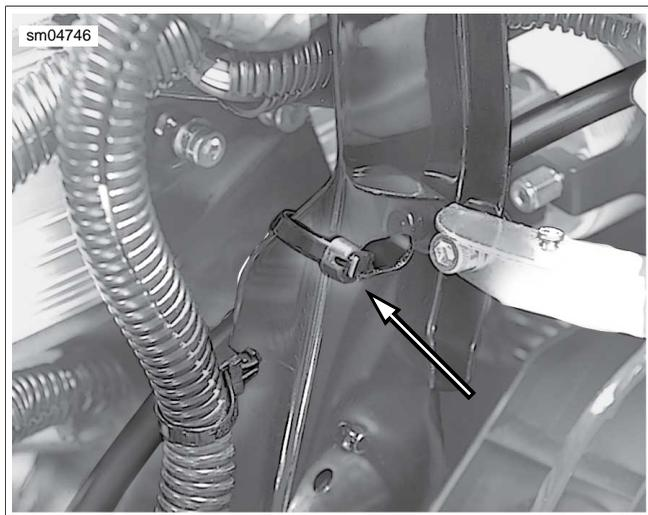

Figure 2-89. Secure Clutch Cable to Fairing Bracket
- b. **FLHX, FLHT/C/U:** Remove outer fairing. See 2.35 UPPER FAIRING AND WINDSHIELD: FLHX, FLHT/C/U. Cut cable strap to release clutch cable from left fairing bracket. See Figure 2-89.
- b. **FLHX, FLHT/C/U:** Feed clutch cable through grommet on left side of inner fairing. Route cable on inboard side of left fairing bracket between upper and lower wings of radio (or storage box) support bracket. Cable strap clutch cable to left fairing bracket using oblong hole at this location. See Figure 2-89. Run the cable downward along left side of steering head, and then between engine guard and front of left frame downtube. Install the outer fairing. See 2.35 UPPER FAIRING AND WINDSHIELD: FLHX, FLHT/C/U.